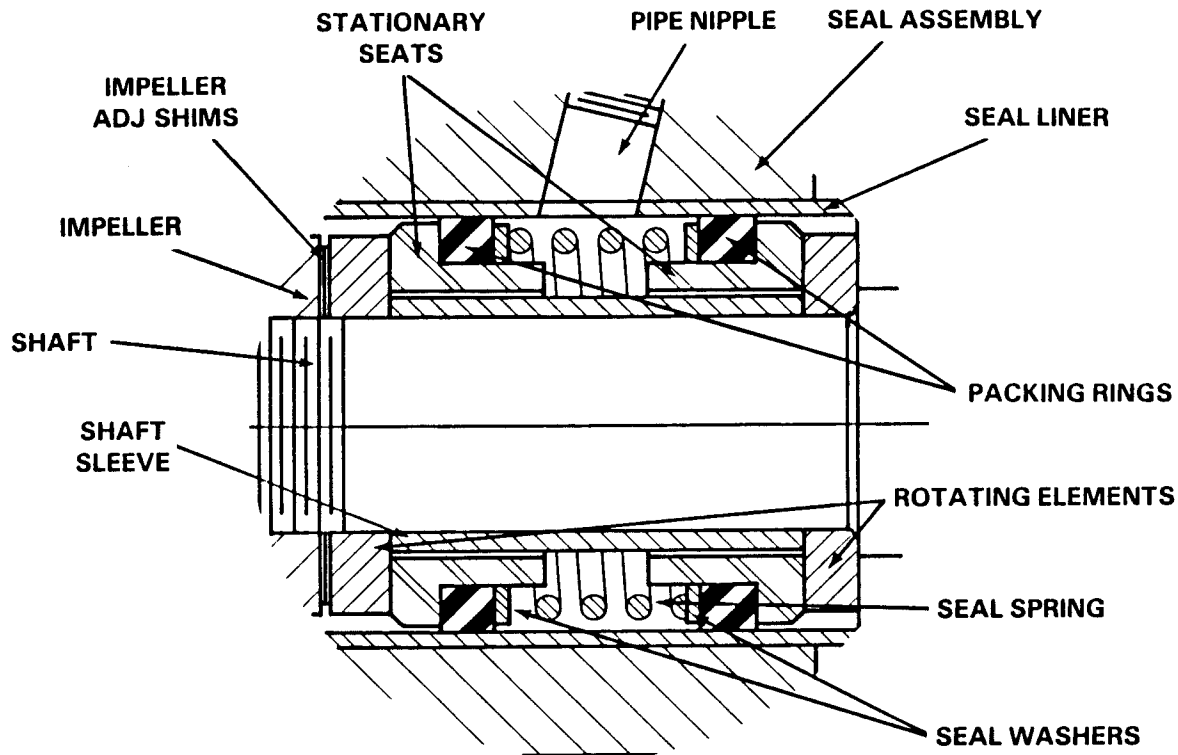

Figure 3. GS01000 Seal Assembly
To ease installation of the seal, lubricate the packing rings and seal liner (12) with water or a very **small** amount of oil, and apply a drop of light lubricating oil on the finished faces. Assemble the seal as follows, (see Figure 3).